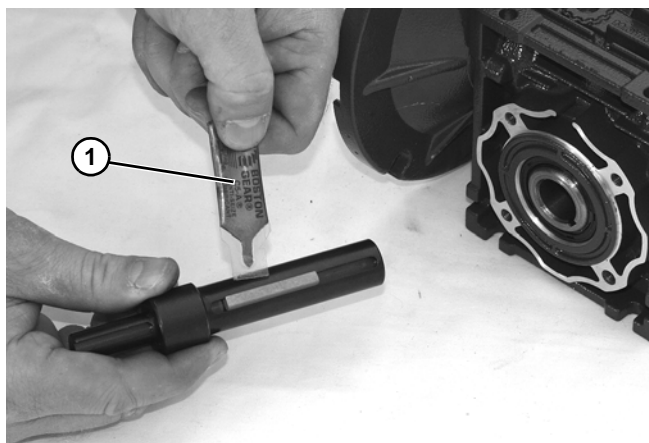

Figure 25
6. Apply anti-seize (Figure 25, item 1) to shaft.